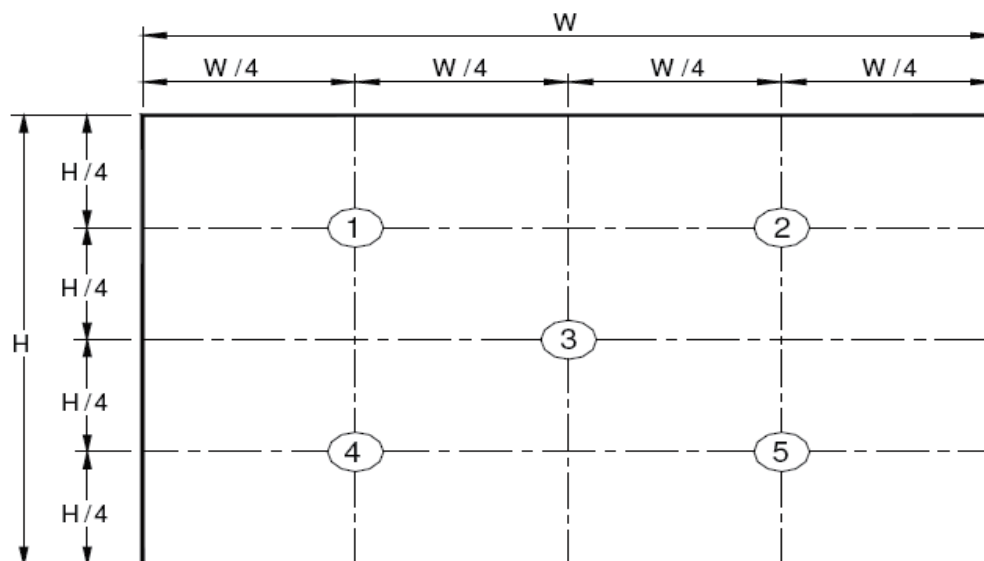
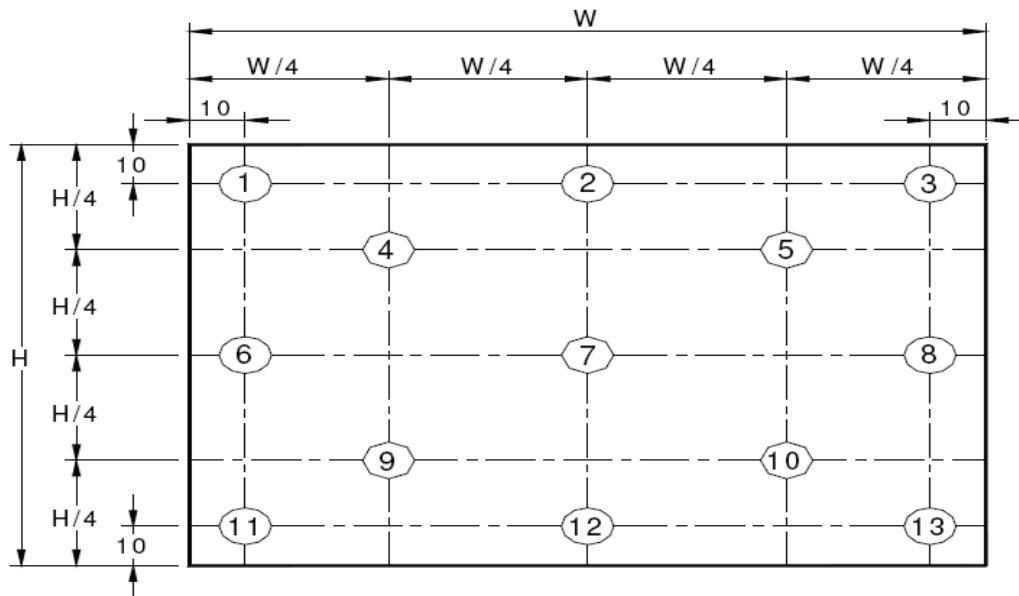

Figure 8. White Luminance and Uniformity Measurement Locations (5 points)
Figure 9. Uniformity Measurement Locations (13 points)
3. Center Luminance of white is defined as luminance values of 5 point average across the LCD surface. Luminance shall be measured with all pixels in the view field set first to white. This measurement shall be taken at the locations shown in Figure 8 for a total of the measurements per display.
4. The White luminance uniformity on LCD surface is then expressed as :  $\Delta Y = \text{Minimum Luminance of 5(or 13) points} / \text{Maximum Luminance of 5(or 13) points.}$ (see Figure 8 and Figure 9).
The White luminance uniformity on LCD surface is then expressed as :  $\Delta Y5$  = Minimum Luminance of five points / Maximum Luminance of five points (see Figure 8) ,  $\Delta Y13$  = Minimum Luminance of 13 points /Maximum Luminance of 13 points (see Figure 9).